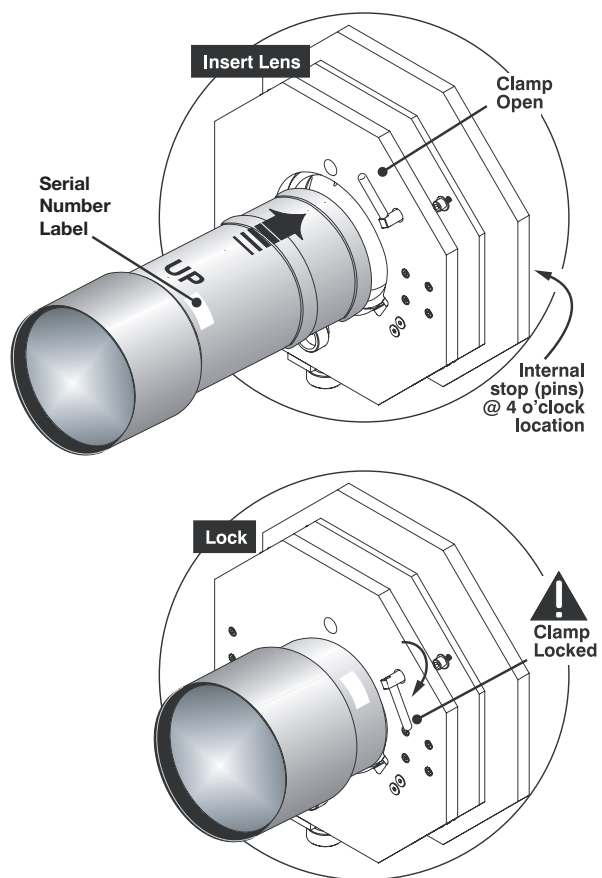

Figure 3-5. Installing the Primary Lens
4. Orient the primary lens with the serial number and UP labels at the top (see Figure 3-5). Fully insert it straight into the lens mount opening all the way back without turning. With the lens fully back, it will seat properly within the lens mount.